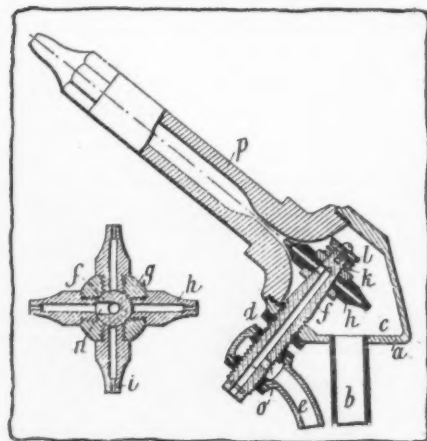

Fig. 12—Burner with variable oxygen feed, for autogenous welding
**OXY-ACETYLENE Burner with Variable Oxygen Feed.**—It is in some cases useful to be able to modify the proportion of oxygen which is mixed with the acetylene gas in the oxy-acetylene burners used for the quick cutting of metals and for autogenous welding, as usually the modification is effected by means of a petcock placed in the oxygen conduit for this purpose. But this method has the fault of reducing the pressure required at the entrance to the mixing-chamber and therefore also the velocity of the jet which comes out of it. Fig. 12 represents a burner of new design in which this inconvenience is avoided by means of a multiple oxygen jet. The acetylene reaches the mixing chamber *c* of the burner *a* by way of conduit *b*, while the oxygen arrives through tube *e* which ends in a hollow piece *d* from which the cone *f* branches into the mixing-chamber. Upon this cone there is mounted the multiple jet composing a ring *g* (shown separately) in which are inserted the laterally flattened individual jets *h*. This multiple feed device is adjusted upon the cone *f* in such manner that the hole *n* in the latter registers with that one of the jets *h* which should communicate with the nozzle *p* of the burner whose walls it touches; it is held in place by the washer *l* and a spring *k*.